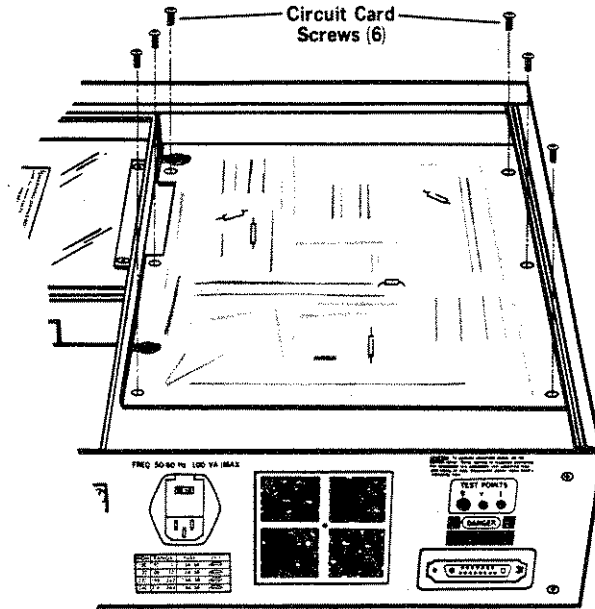

Figure 7-25. Securing the Low Voltage Circuit Assembly
STEP 2. Lower the Low Voltage circuit assembly in place and secure it using the 6 screws that originally held it. Refer to Figure 7-25.